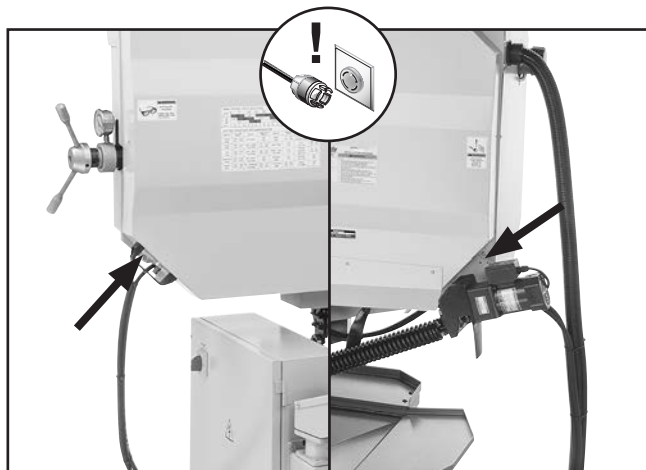

Figure 28. Blade cover secure screws (2 of 4).
1. Push hydraulic pump button (1) to turn hydraulic pump **ON**.
2. Push raise headstock button (2) and raise headstock approximately 6 inches.
4. Open wheel cover by removing (4) button head cap screws (see **Figure 28**).